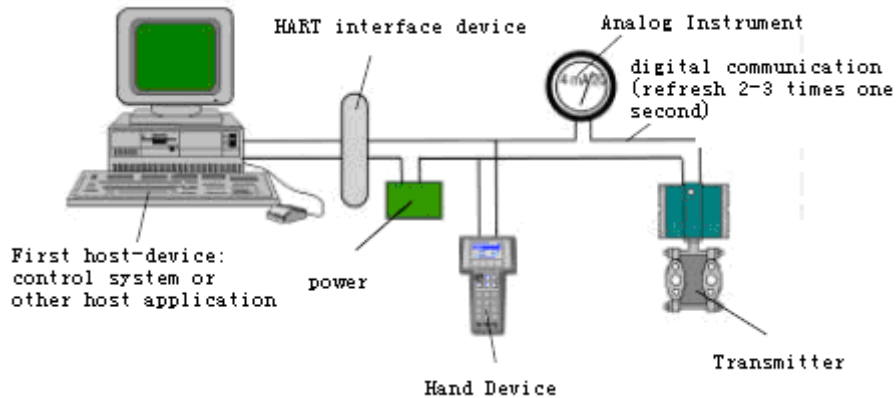

Figure 5-1 Point-to-Point Connection
- **Point-to-Point(Figure 5-1)**